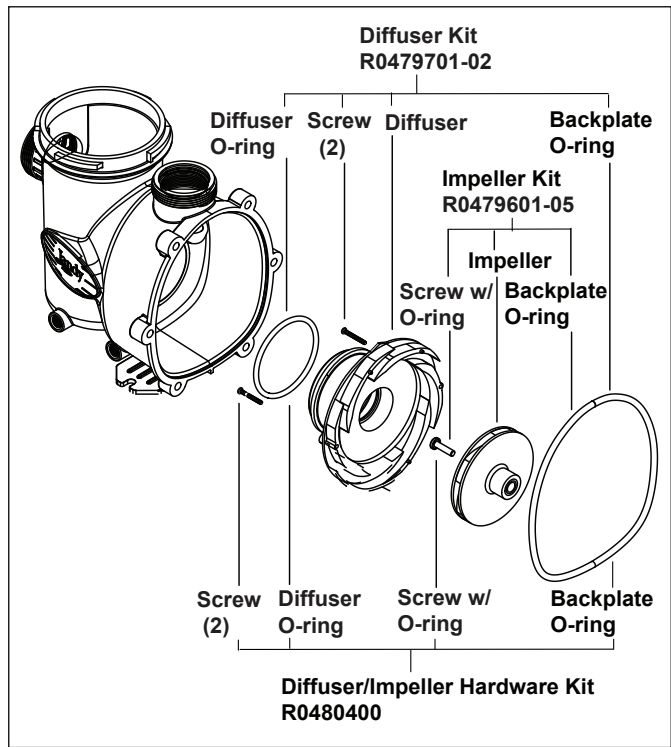

**Figure 1. Removal of Backplate with Motor**
4. Use a 9/16" wrench to loosen the six (6) bolts securing the motor with attached backplate to the body pump. See Figure 1.
5. Pull the motor with attached backplate out of the pump body. Remove the diffuser o-ring from the pump body, as shown in Figure 1.